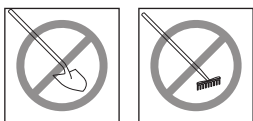

Figure 10: Avoid damage by not using shovels or rakes
- Do not use sharp objects such as shovels, rakes, etc. when installing the cable (Figure 10).